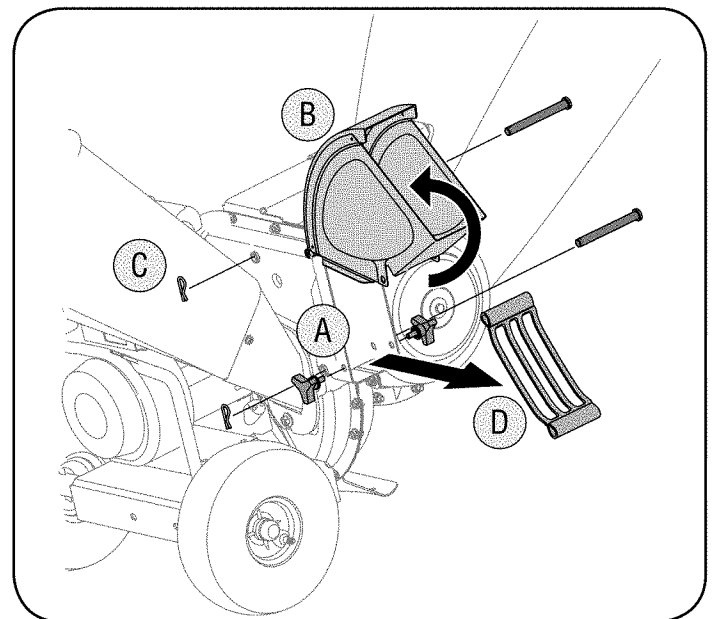

Figure 14
- A. Remove the bag and two wing knobs on each side of the chute deflector. See Figure 14.